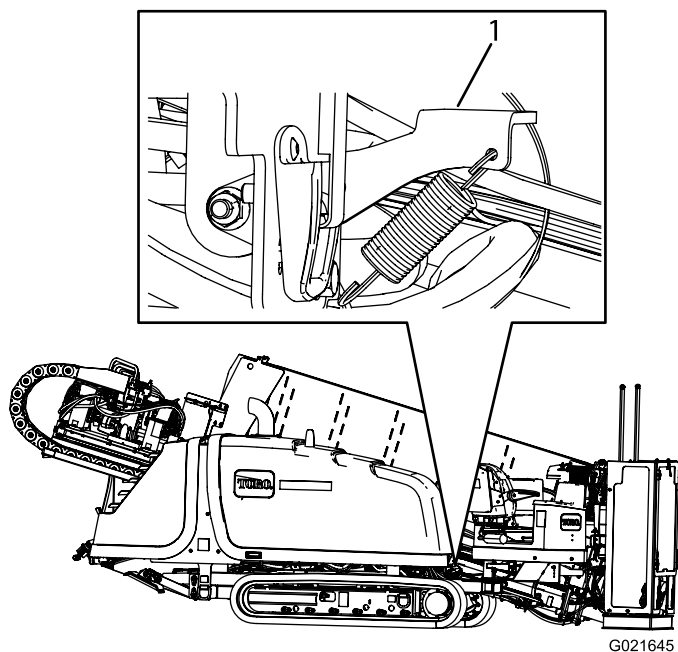

Figure 95
2. Push down on the hood latch as shown in Figure 95.